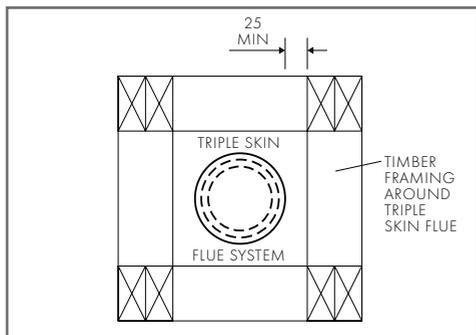

FIGURE 3A
4.1. TIMBER FRAMED FLUE ENCLOSURES (FIG 3A)
Where flues are to be left exposed or surrounded with combustible materials, the triple skin ventilated flue system is required (refer "4.1. Timber Framed Flue Enclosures (Fig 3A)" on page 6).